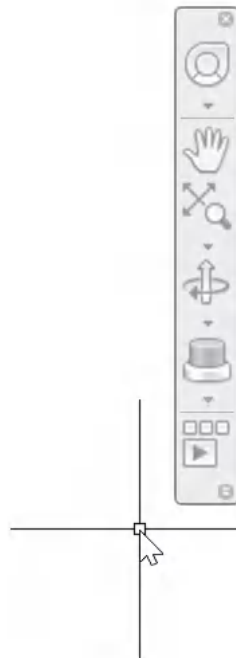

Figure 3.26: The AutoCAD navigation bar
*Figure 3.26* shows the **navigation bar** highlighted in the AutoCAD drawing area. It is highlighted because the cursor (crosshair) is close to it.